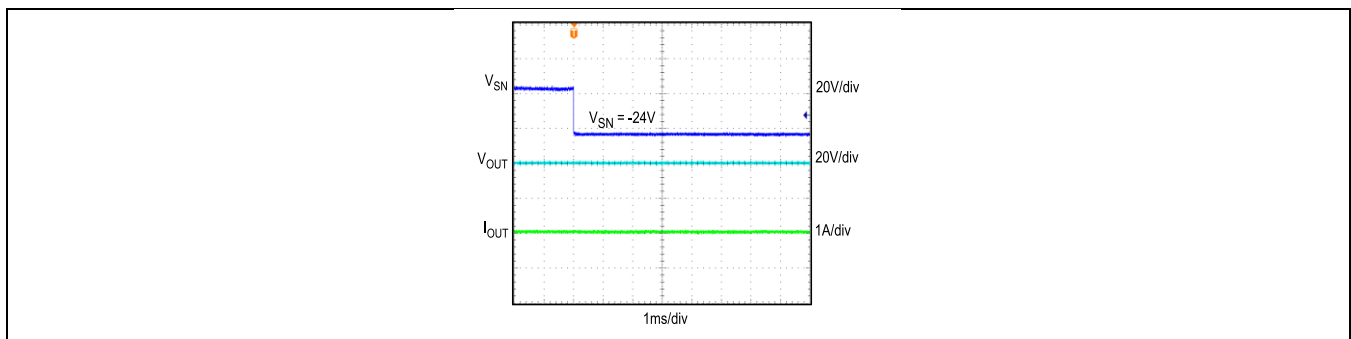
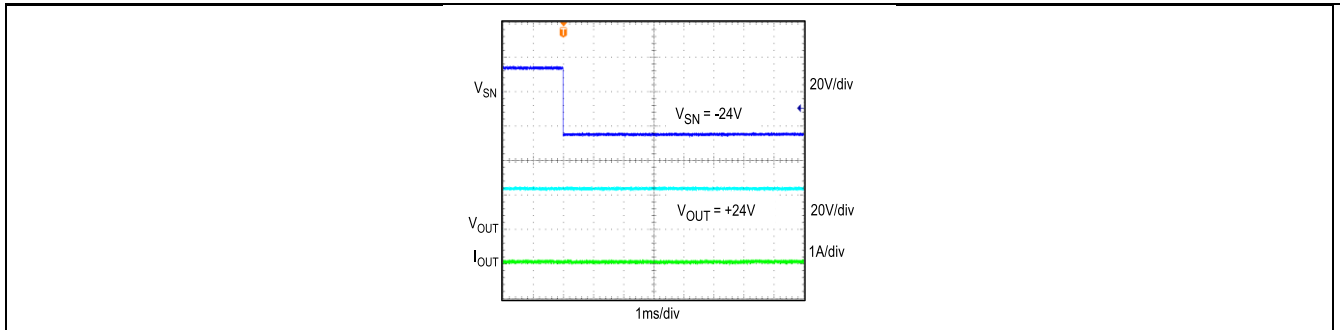

Figure 4. Input Reverse-Polarity Protection at $V_{OUT} = 0V$ and $V_{SN} = -24V$
Figure 5. Input Reverse-Polarity Protection at $V_{OUT} = +24V$ and $V_{SN} = -24V$
The magnitude of reverse-polarity voltage protection is dependent on the operating load bus voltage (V_{OUT}) and the voltage blocking capability of the external nFET. For example, for protection down to a -55V input voltage with $V_{OUT} = 30V$, an external nFET rated for 85V is needed. The MAX17527A provides a gate drive (GN) of 4.75V (typ). Figure 4 shows the reverse-polarity protection of MAX17527A with $V_{OUT} = 0V$ and $V_{SN} = -24V$. Figure 5 shows the reverse-polarity protection of MAX17527A with $V_{OUT} = +24V$ and $V_{SN} = -24V$.